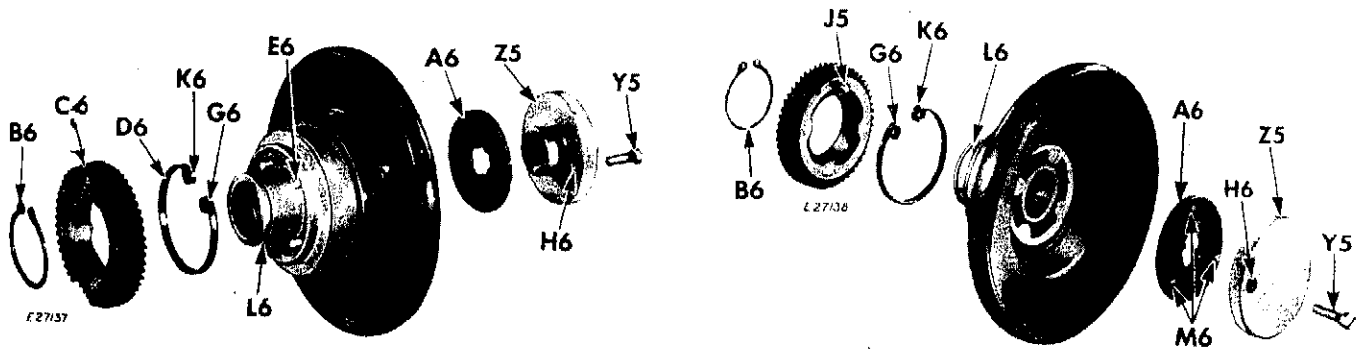

Fig. 310. Exploded Views of Hand Wheel Assembly
1. Remove small screw **Y5** from stop motion nut **Z5**, Fig. 310.
5. Remove hand wheel snap ring **B6**, Fig. 310 from hand wheel assembly with expansion pliers.
7. Remove gear spring **D6**, Fig. 310 from stud **E6** of hand wheel.
1. Place gear spring **D6**, Fig. 310 into hand wheel so that loop **G6** of spring grasps middle stud **E6**, Fig. 310 in hand wheel.
2. Place gear **C6** on hand wheel, with stud **J5** inserted in loop **K6**, Fig. 310 of gear spring.
3. Replace snap ring **B6** on hand wheel, setting ring in groove **L6**, Fig. 310 on hand wheel sleeve.
7. Replace stop motion clamp washer **A6**, Fig. 310 (three short studs **M6** facing outward).
8. Replace and tighten stop motion nut **Z5** and replace screw **Y5** in hole **H6**, Fig. 310, in stop motion nut.